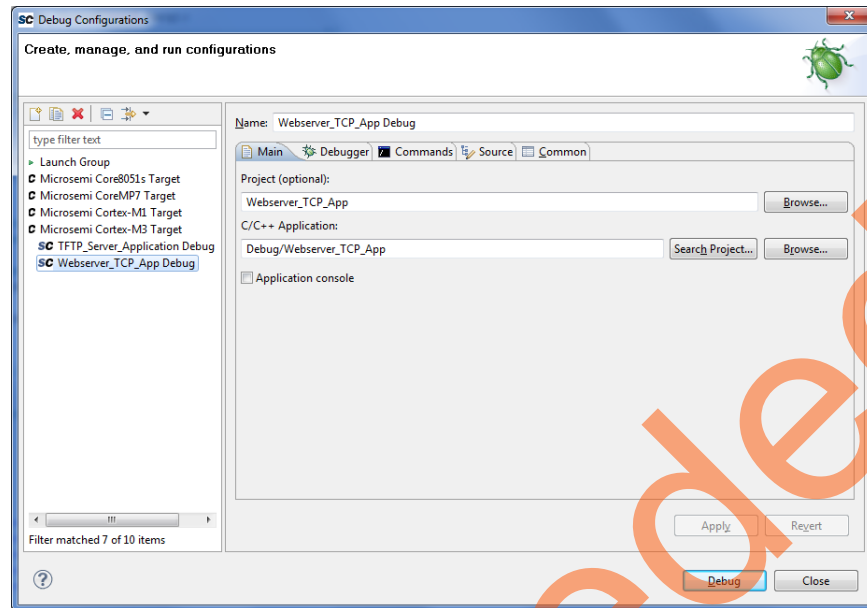

Figure 36 • Debug Configurations for Webserver_TCP_App
3. To debug Webserver_TCP_App project, select **Webserver_TCP_App Debug** as shown in Figure 36.